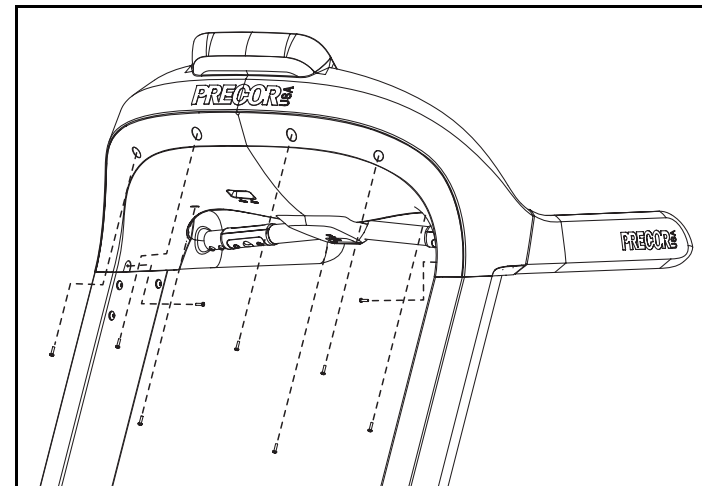

Figure 10: Remove display console back cover screws
3. Use a crosshead screwdriver to remove the nine screws that secure the display console back cover. See Figure 10. Set the fasteners aside.